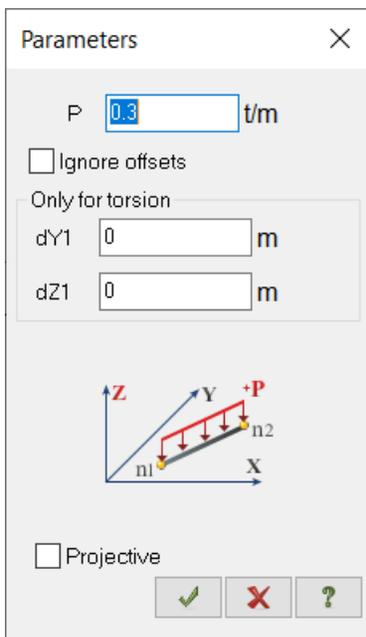

Figure 19.20 Load parameters dialog box
- In the **Load parameters** dialog box specify $P = 0.3 \text{ t/m}$ (see Fig.19.20).